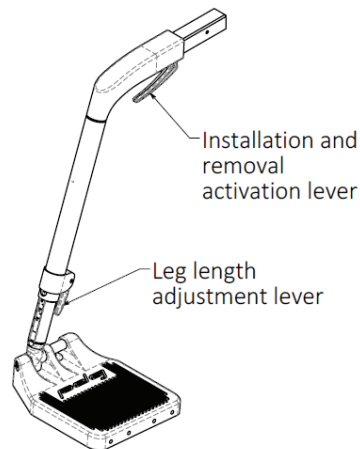

Figure 14.12: Easy-Out Plug-In 70° Front Rigging
1. Loosen and remove the 1/4-20 x 1-3/4" Socket Button Head which holds the ELR's linear locking device, shown in Figure 14.12.